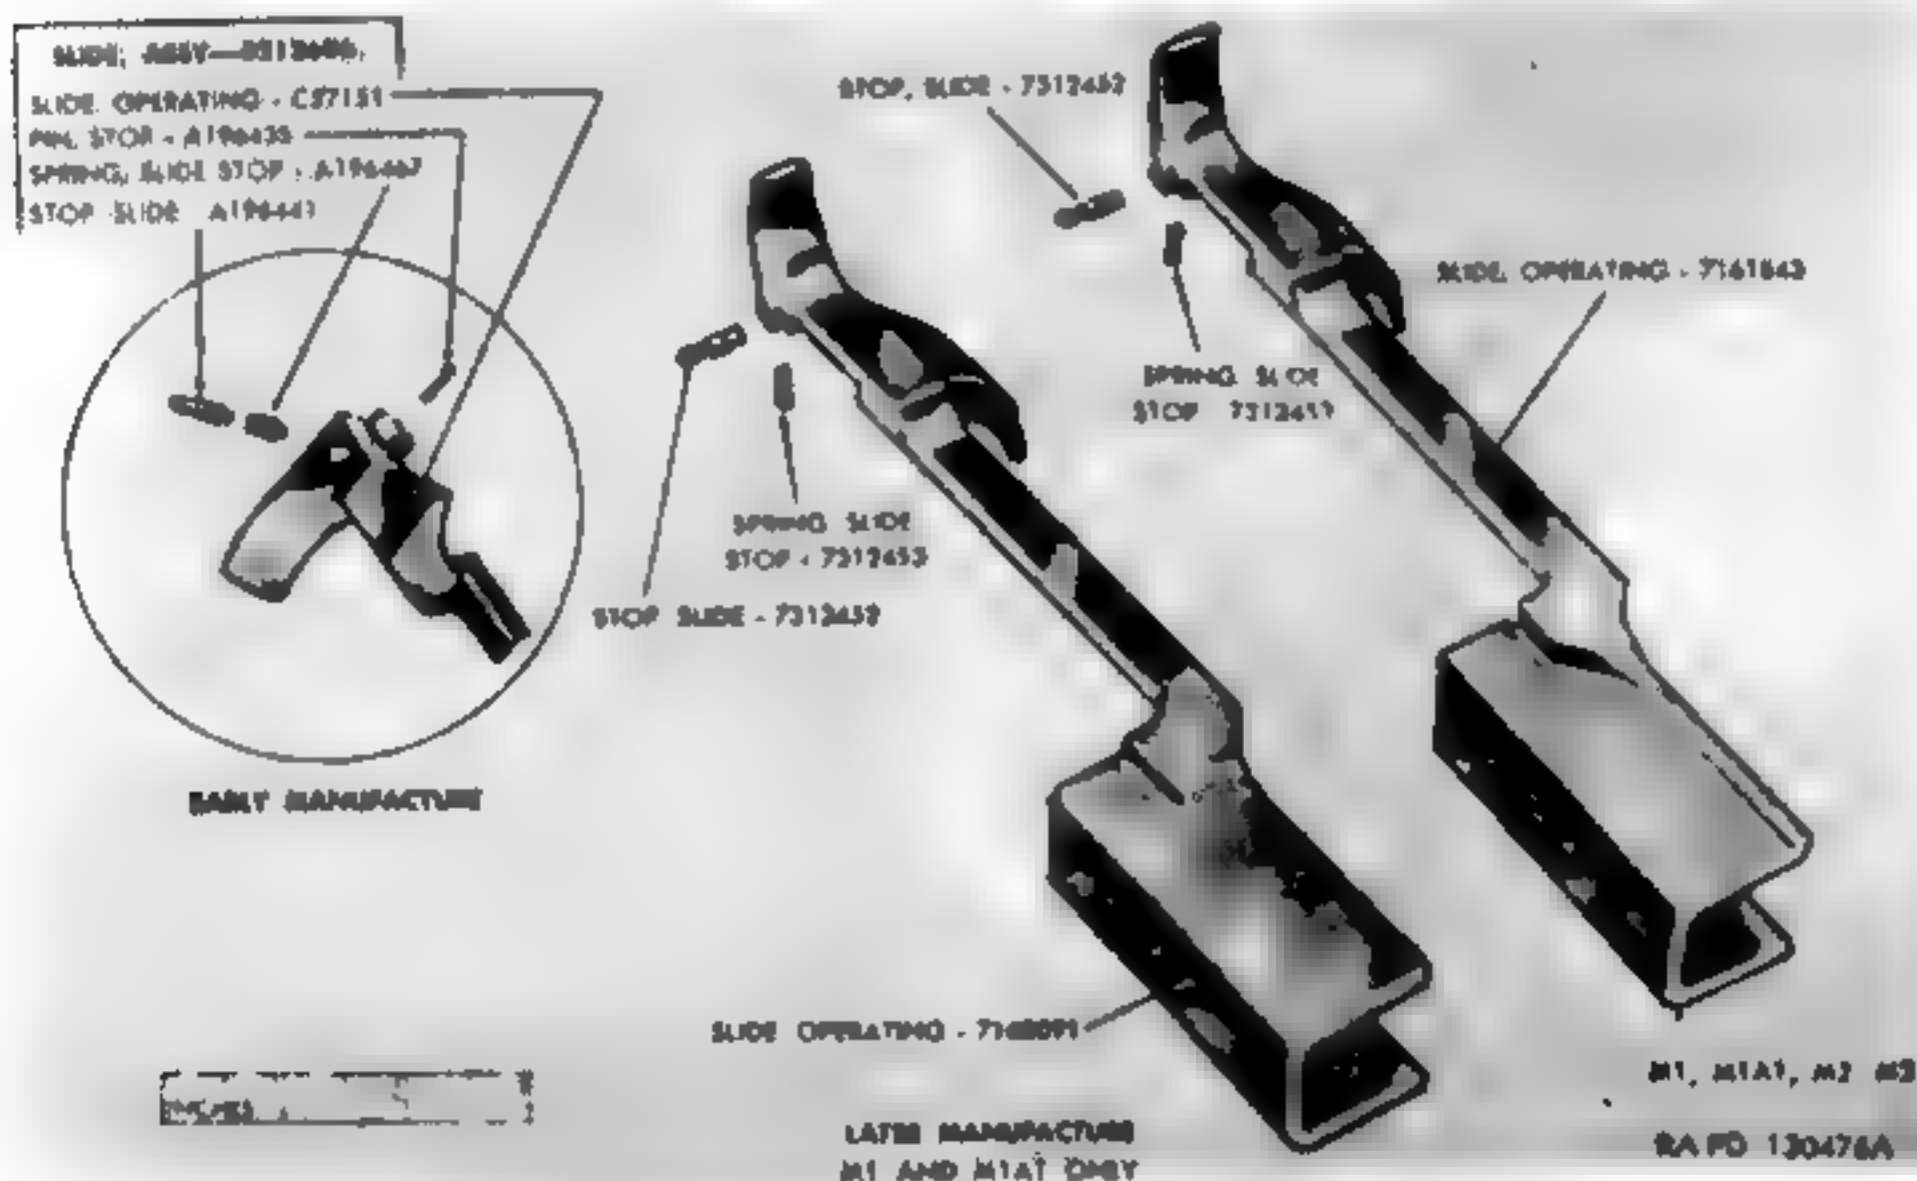

Figure 57. Operating slide assembly.
*a. Operating Slide* (Fig. 57). Check slide for bent or cracked rear bar, deformation, excessively worn guide lugs, burrs, and corrosion. Inspect bolt camming lug recess for wear and burrs. Inspect spring guide seating recess in rear face for wear, burrs, and foreign matter. Inspect front race of
**b. Operating Slide Stop and Stop Spring (Fig. 57).**
- (1) For depot maintenance, check to assure that stop 7312452 and spring 7312453 are used. For field maintenance, old type is satisfactory if it functions properly.
- (2) Inspect stop for wear and burrs, looseness in operating slide, and rust. Inspect stop spring for functioning, lack of friction with stop, and for set. Inspect spring for foreign matter.